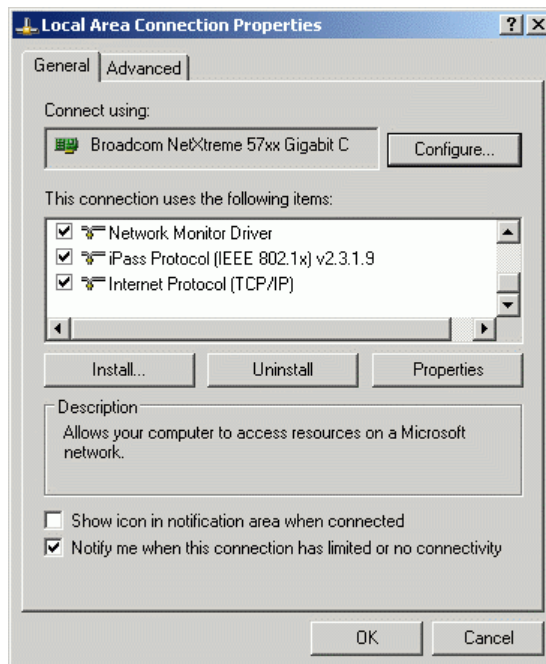

Fig. 2-9: Properties of the LAN connection
1. Open the network connections, e.g. using **System Control > Network Connections** and select **Properties** in the context menu of any (!) network connection (see Fig. 2-9).